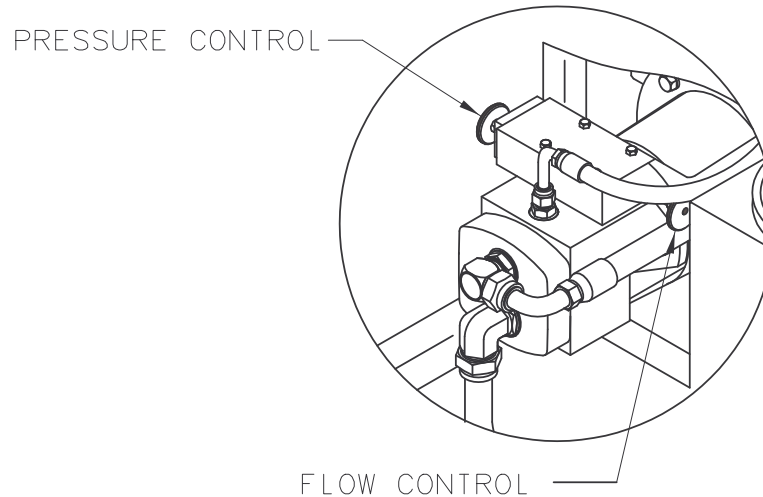

FIGURE 6.3.5 – Hydraulic Pump Controls
- Pump Control Access: See **Figure 6.3.5 –Hydraulic Pump Controls**.